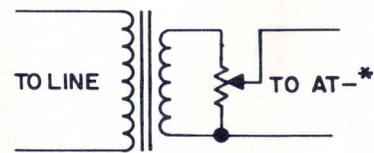

Fig. 4 Tapping an Audio Distribution Line for Obtaining an Input to Model AT-\*.
- Inputs to the AT-\* can be from a Jerrold Model AFT-300 tuner, from any output tap on a background music amplifier, or any similar source. Additional input can be provided directly via a low-output microphone with the AT-\* SOUND gain control set at near maximum; or, where a microphone is used remotely and interchangeably with a tuner, via a preamplifier between the microphone and the Audio-Trol. A relay can be used for remote switching. A further possibility is the tapping of an existing balanced audio distribution line by means of a step-down transformer and a pad or potentiometer (see fig. 4).